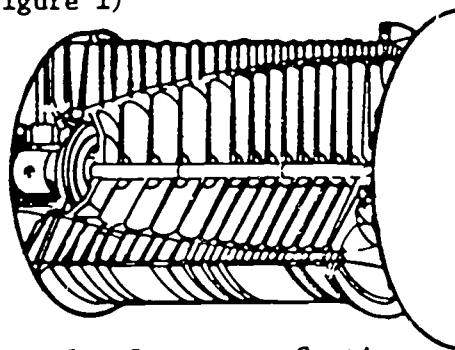

Figure 1. Compressor Section.
1. Compressor Section (Figure 1)